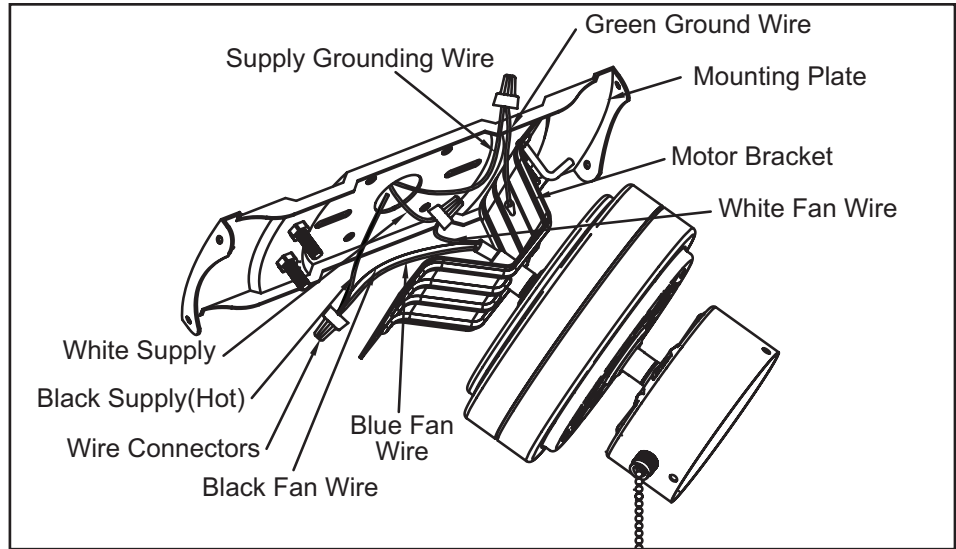

Figure 7
1. Connect the ground conductor of the 120v supply (this may be a bare wire or a wire with green colored insulation) to the green ground leads from the motor bracket of the fan (Figure 7).
2. Connect the fan motor white wire to the supply white (neutral) wire using a wire nut supplied (Figure 7).
3. Connect the fan motor black and blue wires to the supply black (hot) wire using a wire nut supplied (Figure 7).